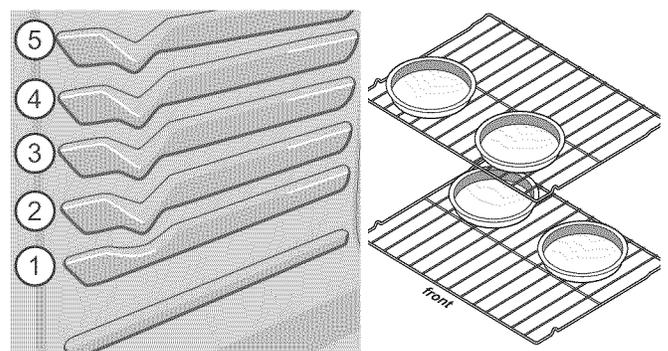

Figure 13: Convection rack positions and pan spacing
- For best results when baking cakes using 2 oven racks, place racks in positions 2 and 4 (Figure 13).
- When baking using 2 oven racks, position bakeware as shown in Figure 13. Allow at least 2 inches (5 cm) of space between bakeware for proper air circulation.